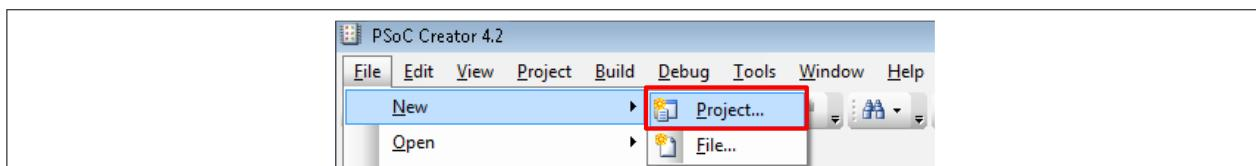

Figure 75 Create a new PSoC™ Creator project
- Choose **File > New > Project**, as Figure 75 shows. The **Create Project** window appears
Tip: PSoC™ Creator speeds up the development process by automatically setting various project options for specified development kits or target devices. See Figure 75 for help with this step.